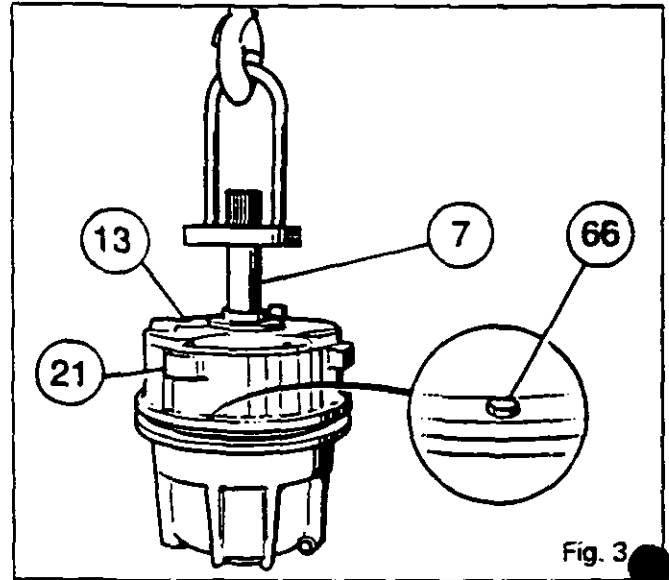
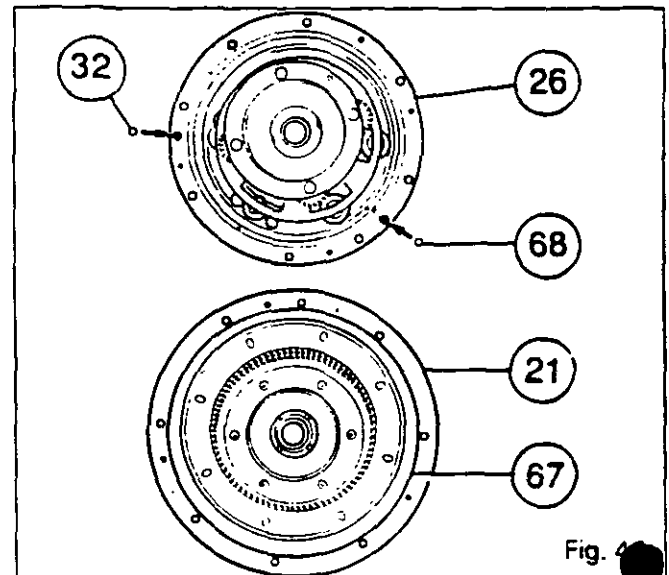

Fig. 3
Fig. 4
18. Unscrew the three bolts (66) (Fig. 3) gradually and alternately.
19. Using the lifting bracket 3376889 M1, remove the primary shaft assembly (7), cover (13), housing (21) (Fig. 3). Discard O-rings (32), (67) and (68) (Fig. 4).